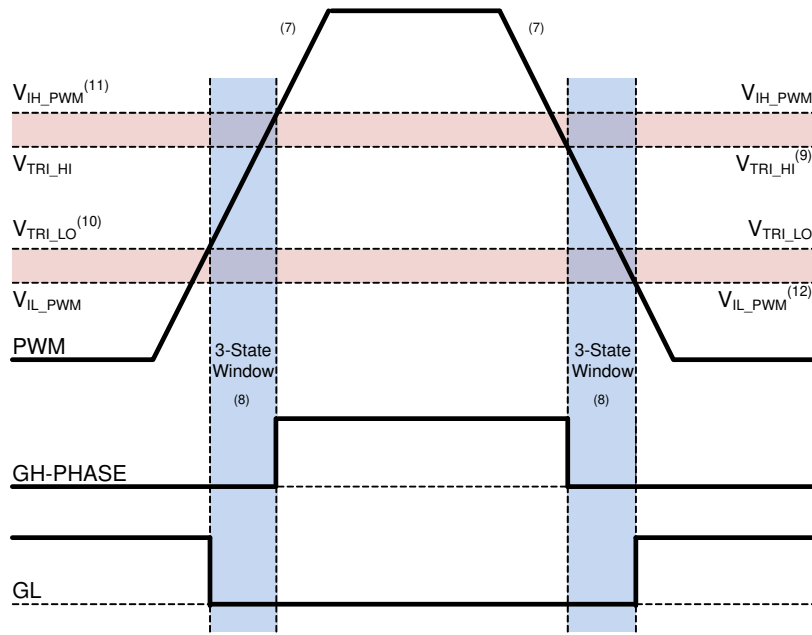

Figure 25. PWM Threshold Definition
- 6. The timing diagram in Figure 25 assumes very slow ramp on PWM.